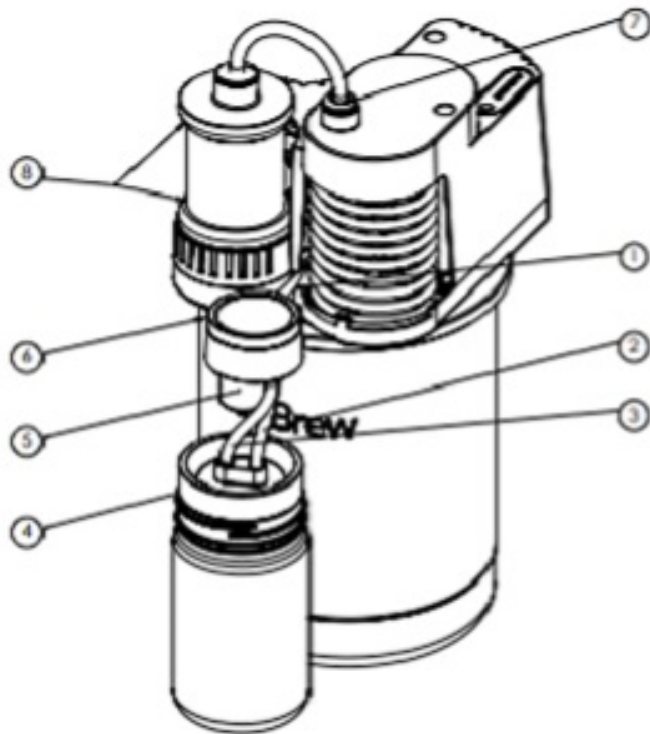

Figure 1
1. One at a time, pinch the hoses at points 1-3 in Figure 1 verifying that PicoStill's internal pressure drops at each point. Release each hose before moving on to the next point in the system.
2. Check points 4-6 in Figure 1 to make sure all components are seated correctly. In particular, ensure that the Heads Trap Vial (point 5) is inserted all the way into the Heads Trap.
3. Remove the Copper Vapor Arch and plug point 7 in Figure 1 to verify that pressure drops. Replace the Copper Vapor Arch once pressure drop is detected.
4. Ensure that the column is properly assembled and seated at point 8 in Figure 1. If you are using copper mesh inside the column, make sure that no mesh strands are interfering with the seal at the top or bottom of the column.
The vacuum pump operates very close to point 1 in Figure 1. If you are moving along the testing points described above and PicoStill pulls a good vacuum at one point, but does not pull a good vacuum at the next point, then the vacuum leak is between the two points.